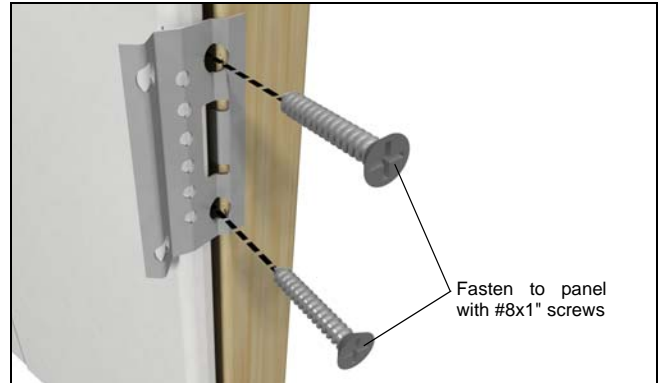

Figure 19
6. Mark the sides of the panel that will receive the stationary bracket 2" - 4" (51 - 102) from each corner then 12" - 14" (305 - 356) thereafter. Install brackets with two #8x1" wood screws. See figure 19.